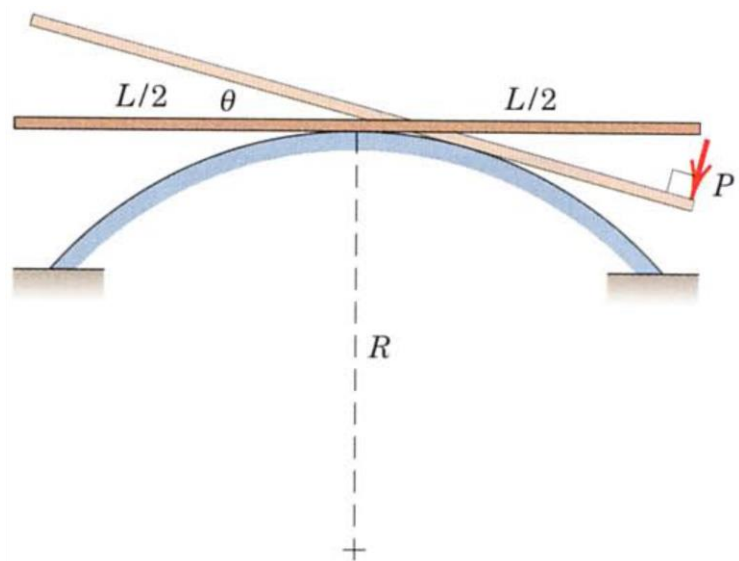

Fig. 2
2. The uniform slender rod of mass m and length L is initially at rest in a centered horizontal position on the fixed circular surface of radius $R = 0.7L$ as shown in Fig. 2. If a force normal to the bar is gradually applied to its end until the bar begins to slip at the angle $\theta = (20 + 2 * I)^\circ$, determine the coefficient of static friction μ_s .